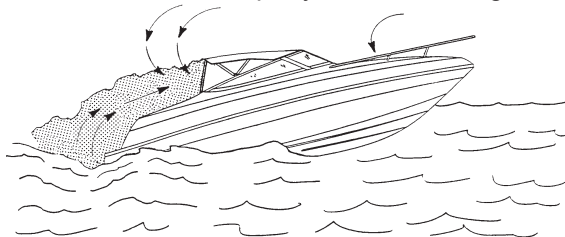

Figure A9: Inefficient trim angles
1. Intentional or unintentional excessive trim angle causing high bow angle. See Figure A9.